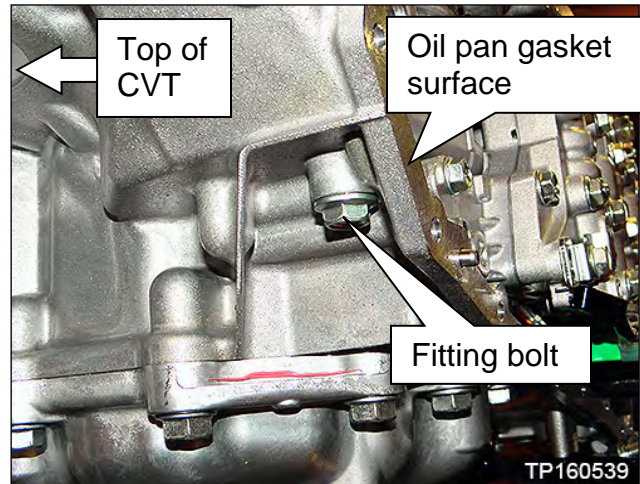

Figure 55
- a. Remove the fitting bolt located above the corner of the oil pan gasket surface (Figure 55).